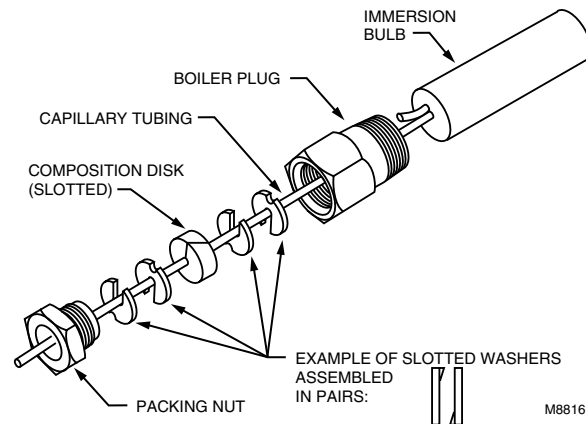

Fig. 5. Capillary compression fitting for L8100 remote bulb.
The remote temperature sensing bulb is installed in an immersion well (Fig. 4) or located near a capillary compression fitting (Fig. 5) that extends into the upper portion of the tank to prevent stacking.
- ❶ Use tapping provided by manufacturer, if possible, or select an area where typical water temperature is best measured.
- ❷ If tank is filled, drain to below point where bulb will be installed.
- ❸ Screw fitting into boiler tank tapping.
- ❹ Place packing nut on tubing.
- ❺ Slide bulb completely through fitting.
- ❻ Place composition disk and four slotted brass washers on tubing in order shown in Fig. 5. *Turn brass washers so slots are 180 degrees apart.*
- ❼ Slide seal assembly into fitting and tighten packing nut.